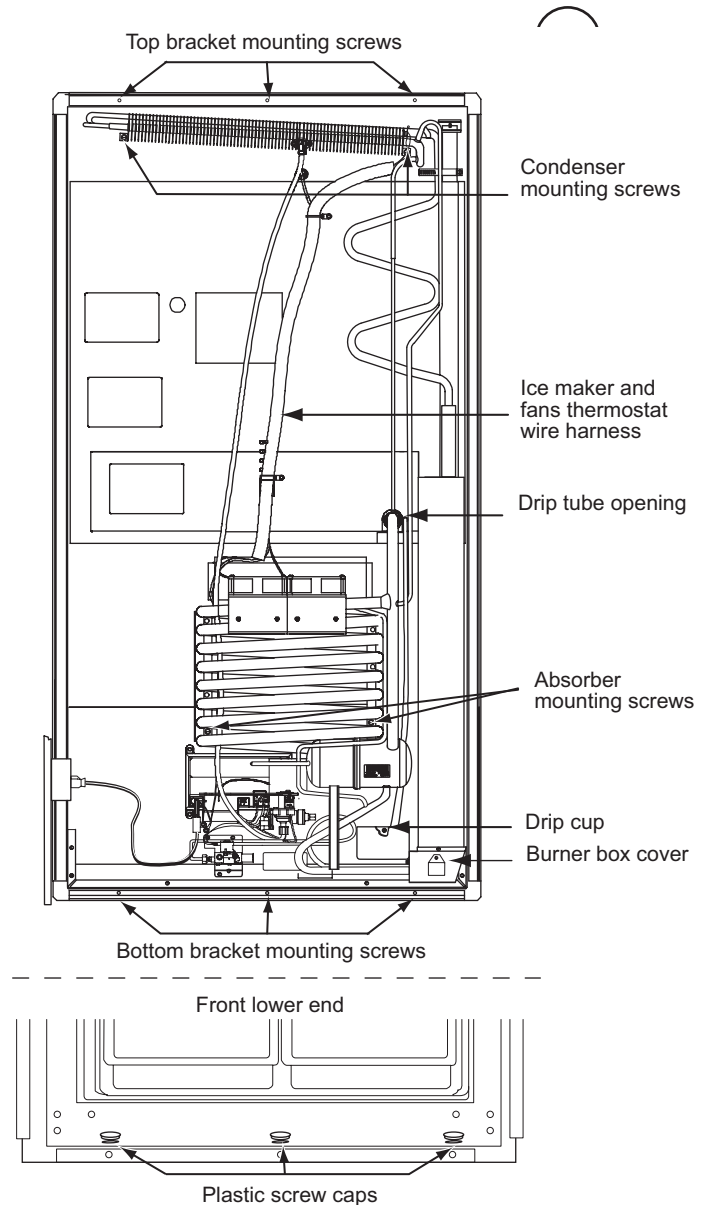

Figure 3.
**Steps 10 and 11 refer back to Figure 3, page 2.**